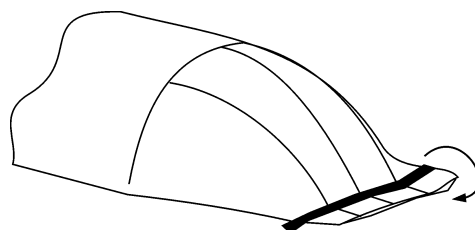

Figure 20 - Filling of the grain bag front end
6) Start feeding grain gradually, checking that the end of the grain bag is adequately filled and is lying evenly on the ground as shown in Figure 20. Remember that the front end of the grain bag must be turned over.